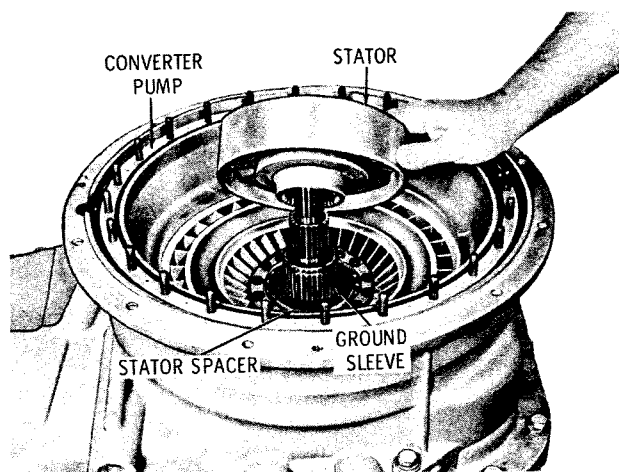

Fig. 7-39. Installing torque converter stator
(2) Install the stator spacer and stator, hub projection first, onto the ground sleeve (fig. 7-39).